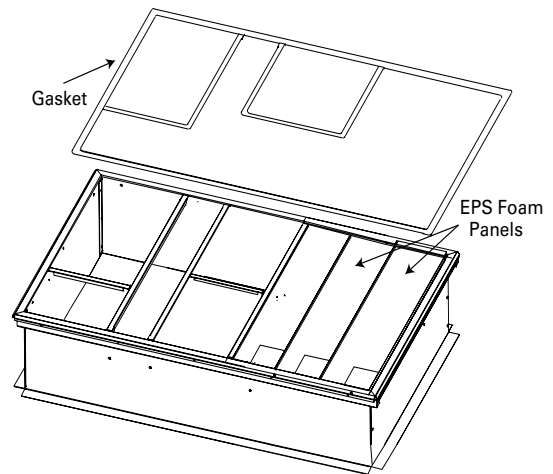

Figure 12. Step five
Note: All field fabricated panels used must be insulated. (See Figure 5 or Figure 12 ).
8. Install three pieces of foam insulation and gasket. See Figure 12, p. 8.